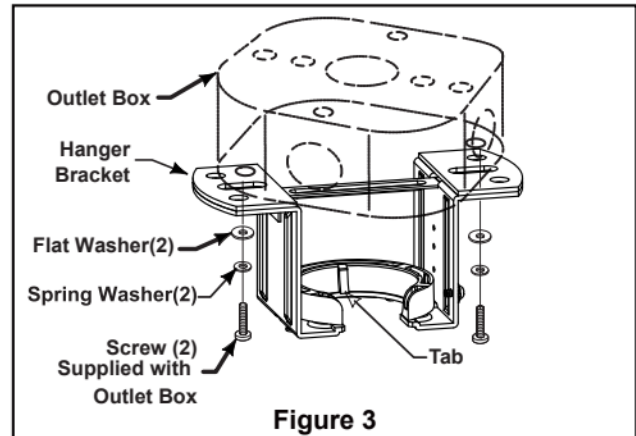

Figure 3
- ☐ 1. Securely attach the hanger bracket to the outlet box using the outlet box screws and washers supplied with the outlet box. (Figure 3)